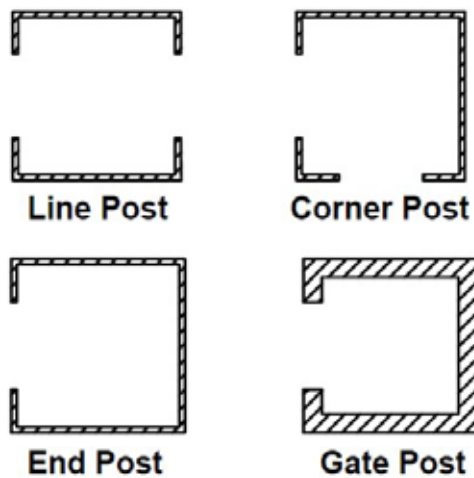

Fig. 1
- Identify and separate the four styles of posts: Line posts have holes routed on opposite sides, Corner posts have holes routed on adjacent sides, and End posts have holes routed on one side. Gate posts are routed like end posts, but the wall thickness is almost double to support the weight and use of the gate - Figure 1